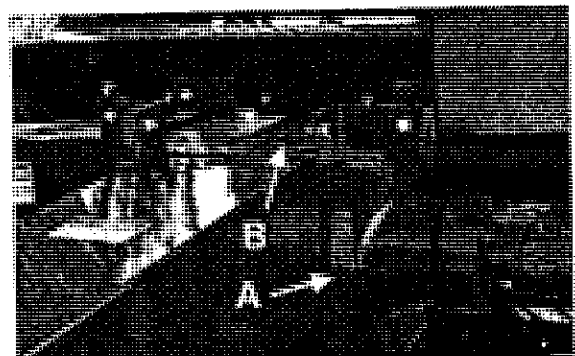

Figure 64. Main Gear Box Oil Level
L. - Change Gear Box Oil - Oil in the gear boxes must be replaced every 500 hours or each season. Refill to the level plug with SAE EP 90 gear grease. Refer to Figures 64 and 65 on the previous page.